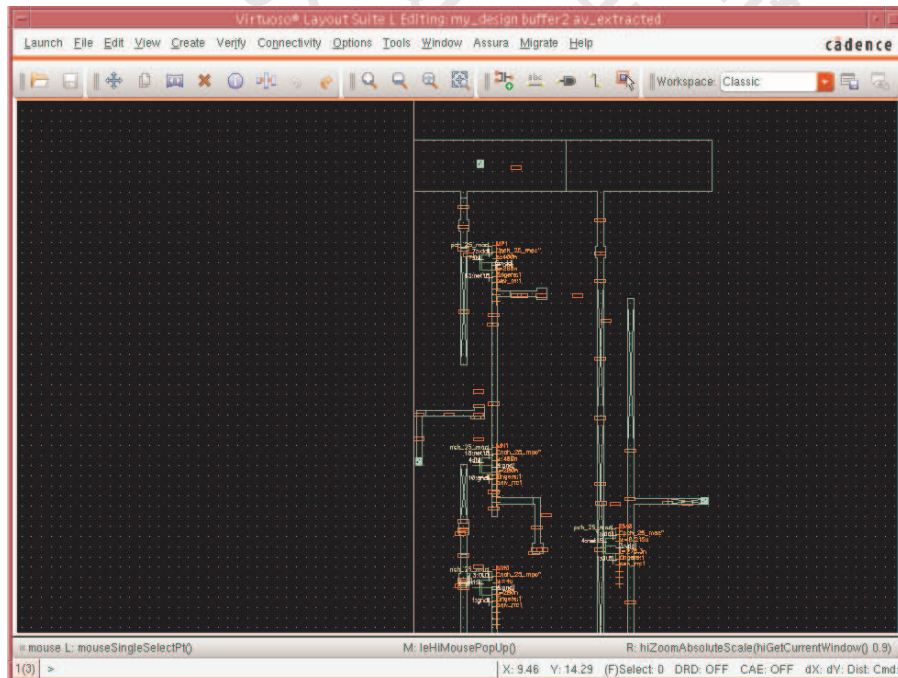

FIG. 40 Assura av_extracted view
4. Click “OK” to start the Assura RC extraction. After the RC extraction is completed, a new view (“av_extracted” view, Fig 40) which contains not only the original components but also the parasitic devices will be generated and then can be used for post-layout simulation.